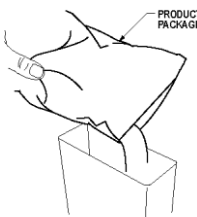

Figure 5f. Fill Canister
6. Slowly pour the product into the canister until the canister is almost full. **Figure 5f**.